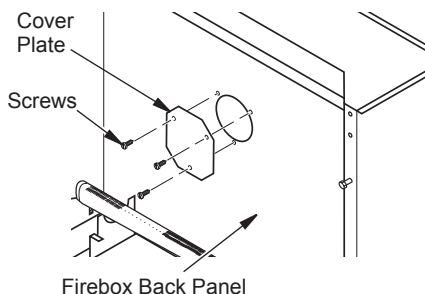

Figure 19 - Removing Cover Plate
11. Remove three screws and cover plate from center of firebox back panel. Keep screws but discard cover plate (see Figure 19).